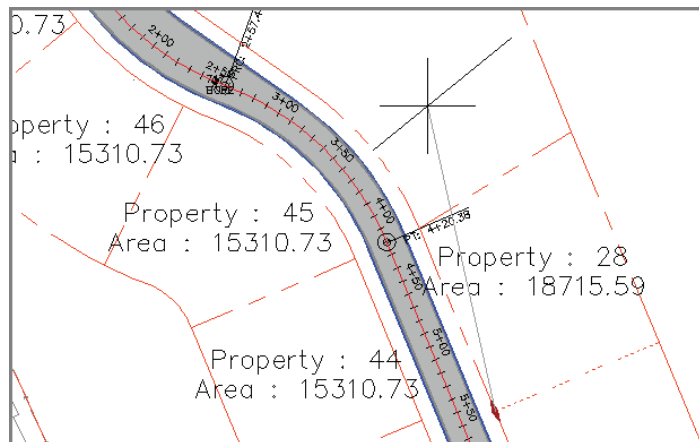

FIGURE 12.15 As it's moved with the diamond-shaped grip, the parcel line stays perpendicular to the parcel segments it's associated with.
7. Click the diamond-shaped grip, and slide it along the parcel line it's attached to. Slide it north to the curved areas, and notice how it stays perpendicular to the parcel segments it's attached to (see Figure 12.15).